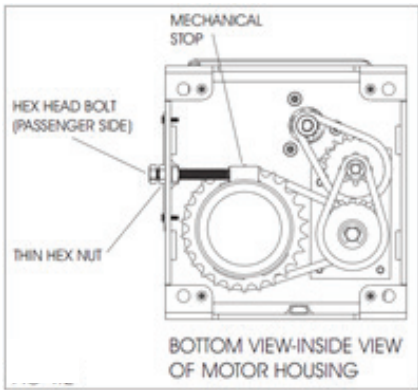
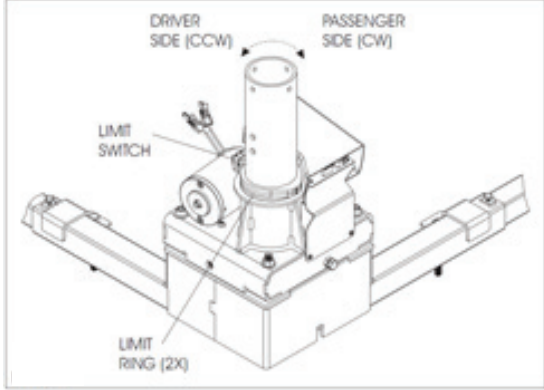

Figure 26-3
Figure 26-4
Motor Housing and rotate until the Rotational Tube makes contact with the Bolt, [Figure 26-3] [passenger side is clockwise (CW) & driver side is counter clockwise (CCW)]. Back the Bolt away and set the Limit Ring to the desired location in the "IN" position and tighten the set screw, [Figure 26-4].